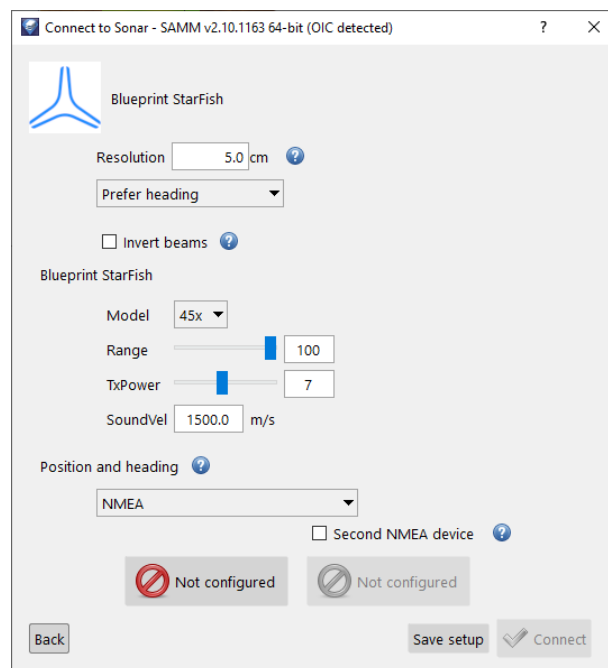

Figure 53. BlueprintFritch StarFish Interfacing
6. In the StarFish interface window (Figure 53), set processing and sonar parameters as necessary. Make sure to select an appropriate sonar model.